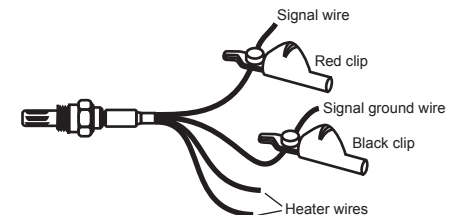

Fig. 3 - Test lead connection guide
- 2-Connect the red test clip to the sensor signal wire (Fig. 3)
- 3-Connect the black test clip to the sensor signal ground (or common) wire if available, otherwise connect to a good ground near the sensor (Fig. 3)
The instrument test leads are connected to a heater wire(s) or a circuit with more than 6 Vdc. To correct this error, attach the test leads to the signal and ground wire of the oxygen sensor (Fig. 3).
Test leads connected with reverse polarity. Reconnect test leads observing the polarity: red clip -> signal wire, black clip -> ground or common (Fig. 3).